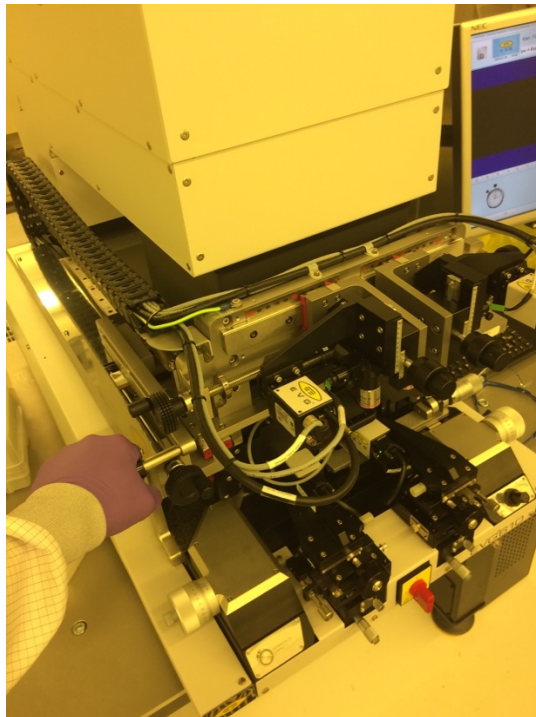

Figure 4: Lamphouse in exposure position (pulled all the way towards the user).
- xiii. Move the lamphouse over the substrate and wait for exposure. See Figure 4 for correct positioning.
- xii. Move the lamphouse over the substrate and wait for exposure. See Figure 4 for correct positioning.